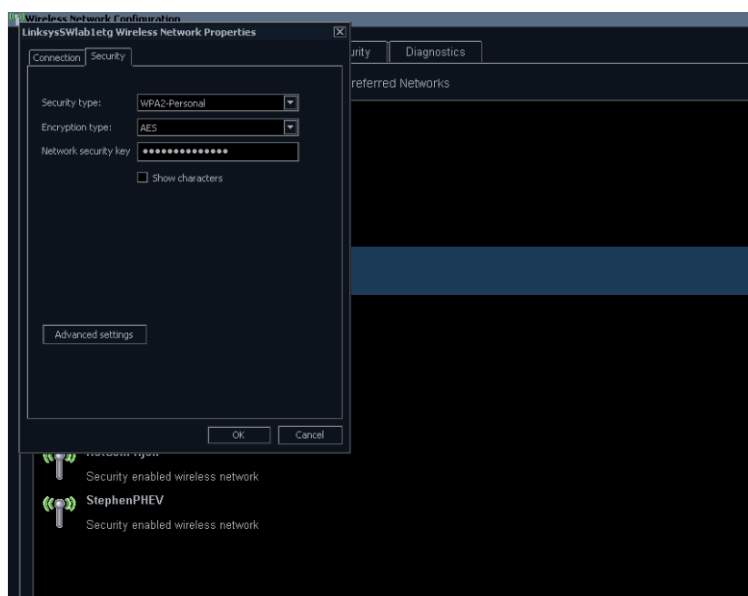

Figure 3-37 Network Settings Window - Security
- 9.) Setup security options in the **Security** tab of connection setup dialog - See Figure 3-37.